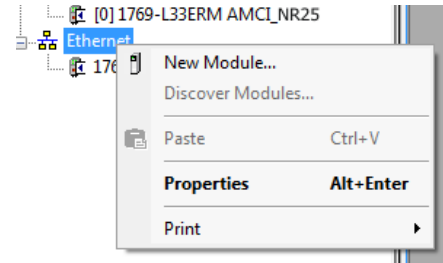

Figure 4.1 Adding an NR25
- 1) As shown in figure 4.1 on the right, the Ethernet port will be listed under the I/O Configuration tree. Right click on the port and then click on “New Module...” in the pop-up menu.